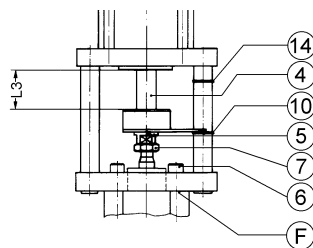

Figure 4.2-1: Coupling / mounting the actuator onto a valve
- Assemble the coupling according to figure 4.2-1: